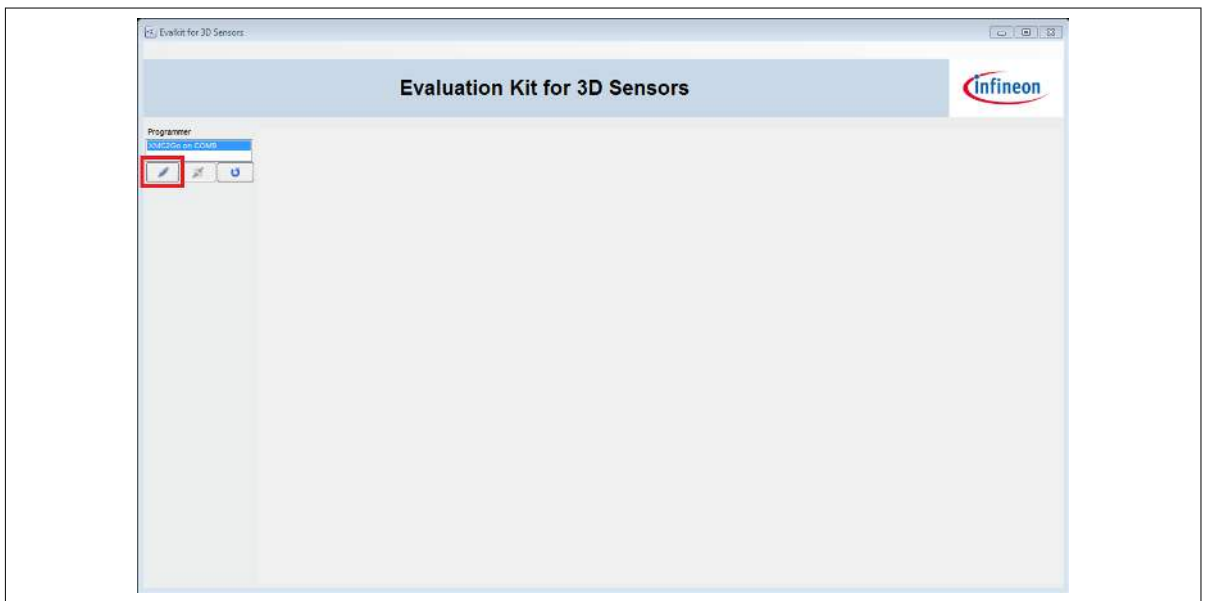

Figure 26 Establish the connection to the EvalBoard
2. Open the 3D 2Go GUI by clicking the shortcut in the start menu. On the top left side you should find the XMC2Go board in the list. If not, check that the EvalBoard is correctly connected to the PC and the J-Link driver is installed. Click on the **Connect to selected programmer button** which is marked in Figure 26 to establish the connection with the 3D Magnetic Sensor 2 Go kit. The first time you connect the board, a firmware will be downloaded to the XMC1100 which takes short time. This is indicated by the blinking power LED on the EvalBoard.